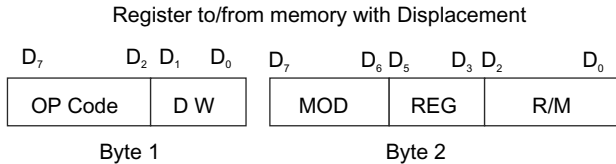

Fig. 6.15 Two-byte instructions
Register-to-register and register to/from memory with no displacement instructions are two bytes long as shown in Fig. 6.15. In a register-to-register instruction, the first byte of the code specifies the instruction operation (D_7-D_2) and width of the operand is specified by D_1-D_0 (W). The second byte represents the register operand and R/M field as given in Table 6.2.